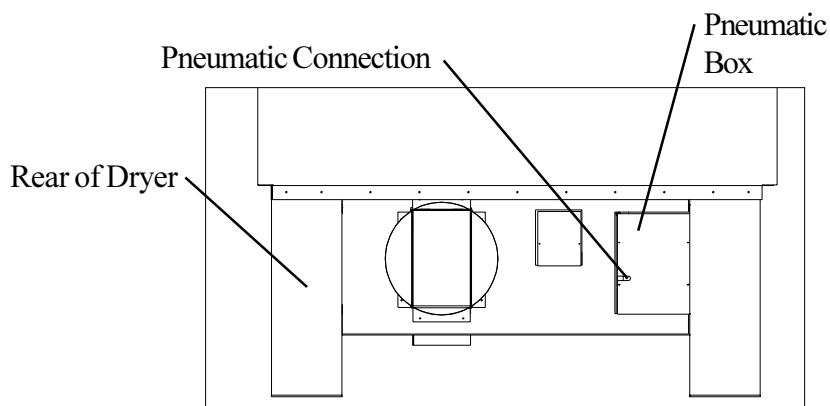

Figure-6A
STEP 14: Remove air regulator from basket. Put air regulator on pneumatic connection and then hook up air (See Figure-6A).